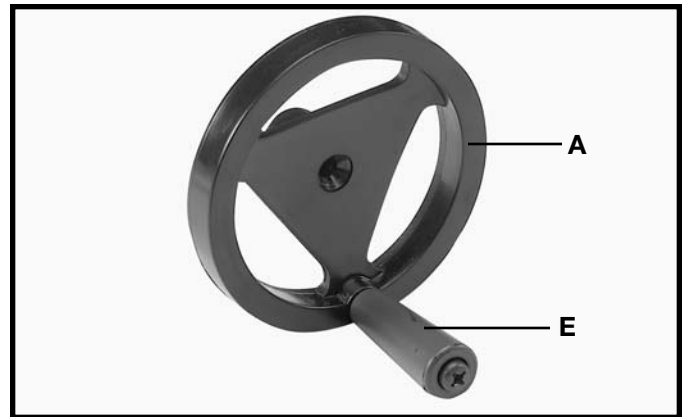

Fig. 3B
2. Fig. 3B, illustrates the handle (E) assembled to handwheel (A).